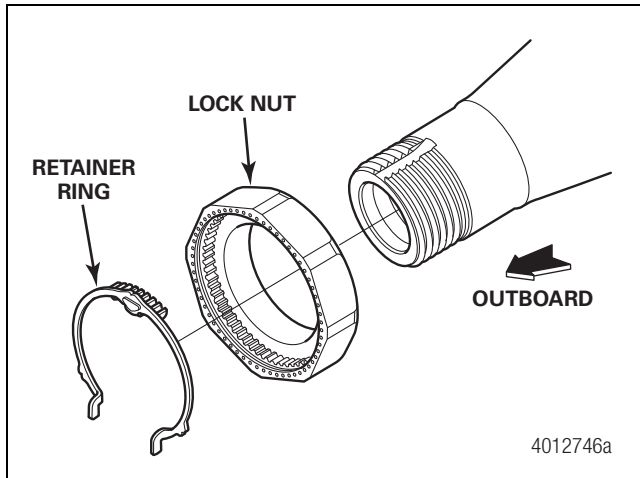

Figure 10.14
1. Remove the retainer ring from the nut. Use a screwdriver to carefully pry the retainer arm from the nut groove on each side until the retainer ring is released. Figure 10.14.